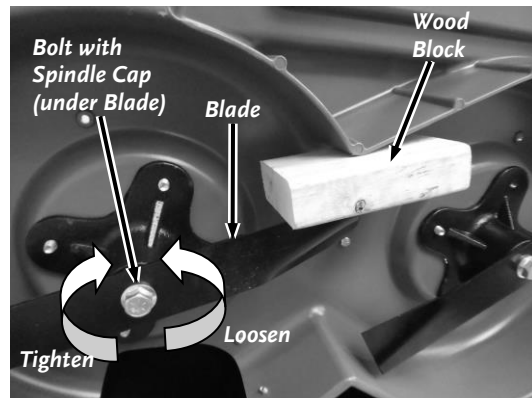

Figure 26
3. Use a block of wood between the Blade and Deck to hold the blade from turning (**Figure 26**).